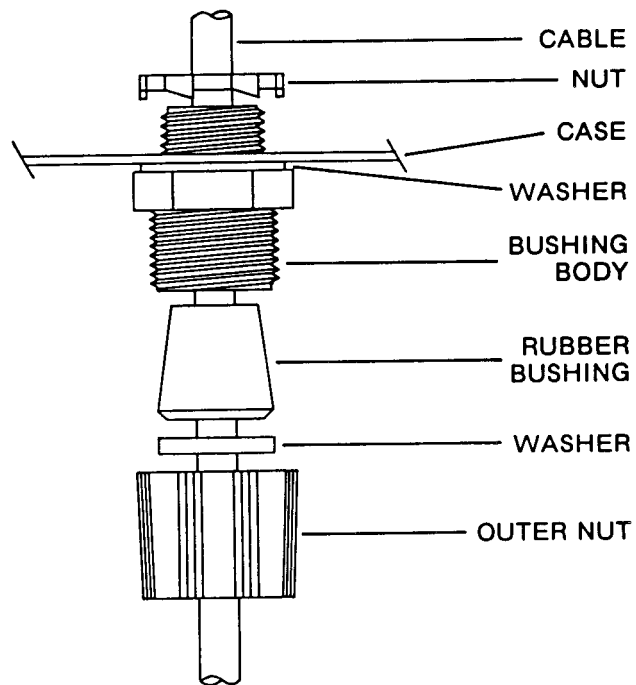

Figure 2-17 Cord-Grip Fitting
4. Figure 2-17 shows you how to assemble the cord-grip fitting.